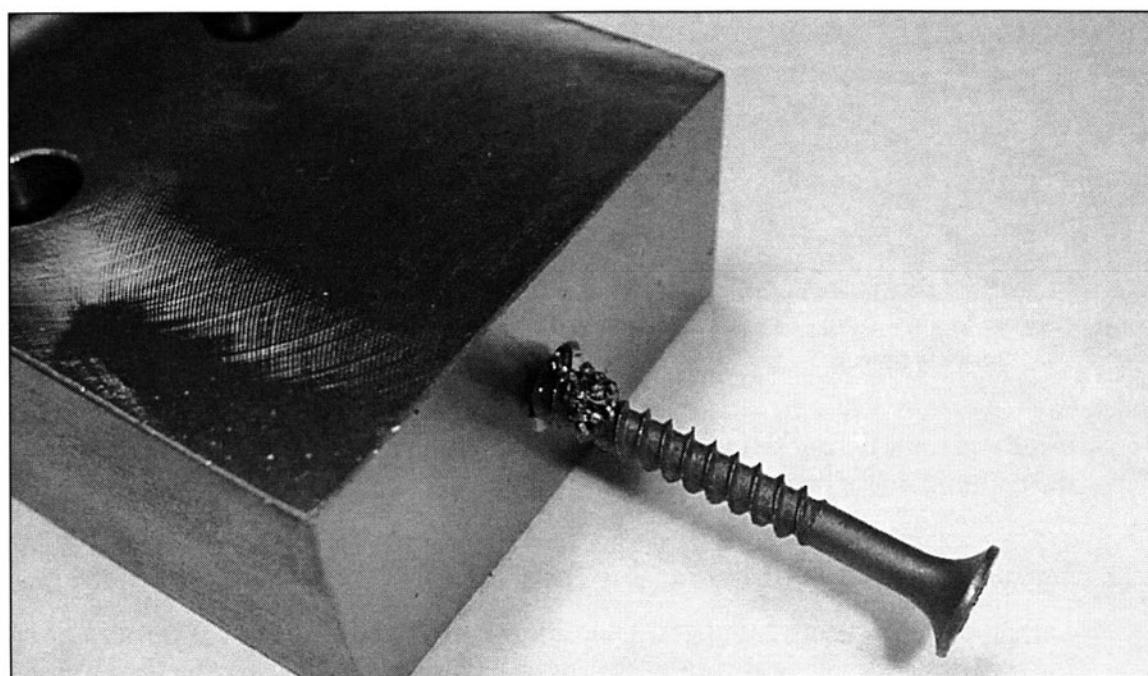

FIGURE 3-13 A drywall screw can be used to remove chips from the bottom of tapped holes.
18. Use a drywall screw to remove chips from the bottom of tapped holes. (See Fig. 3-13)